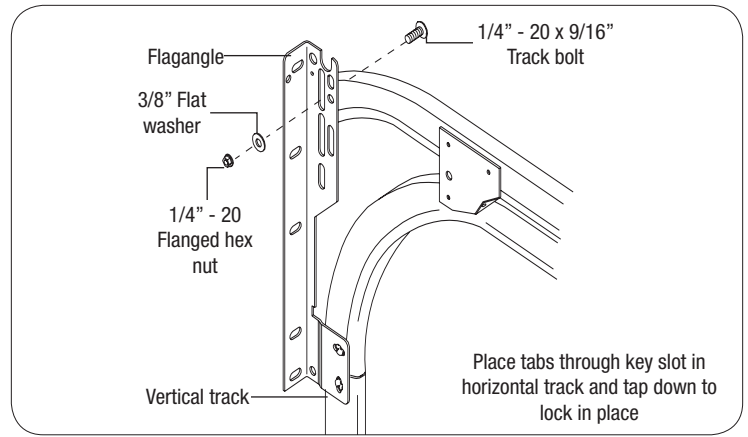

FIG. 7.1
Place (1) 1/4-20 x 9/16" track bolt through the slot in the end of the top curve and the appropriate slot in the flagangle, then secure with a 3/8" flat washer and flanged hex nut (do not fully tighten). Level the horizontal track, then tighten the bolt in the top curve, as shown in **FIG. 7.1**.